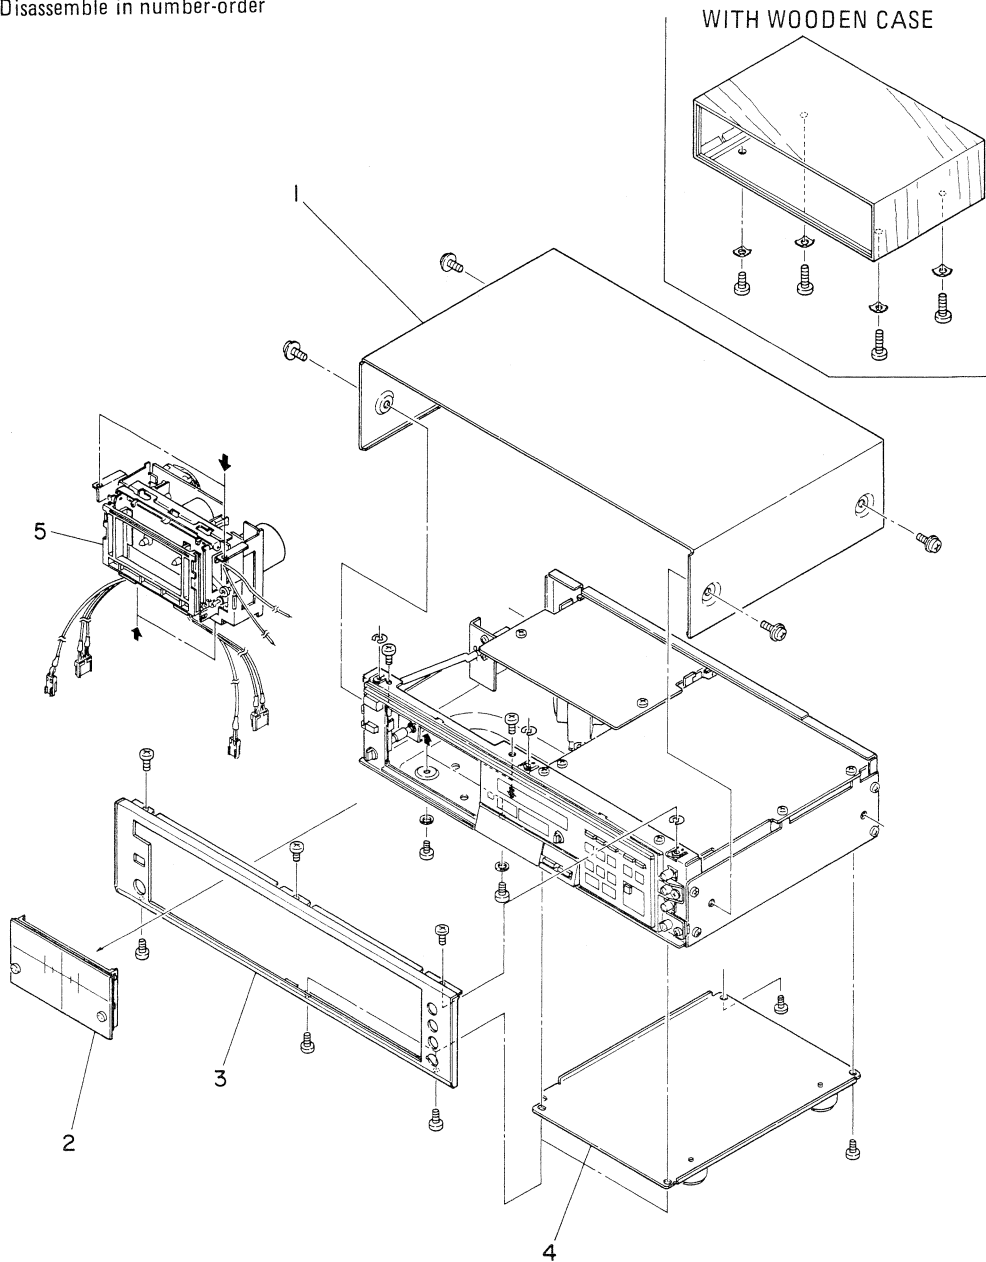

Fig. 2-1
1. To facilitate the process, remove the tape transport chassis from the main chassis. Refer to Fig. 2-1.